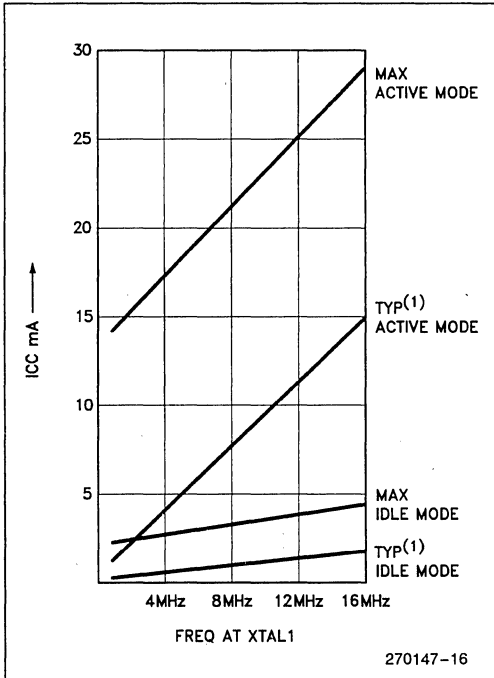

Figure 5. I_{CC} vs. FREQ. Valid only within frequency specifications of the device under test.
- where FREQ is the external oscillator frequency in MHz. I_{CC}MAX is given in mA. See Figure 5.